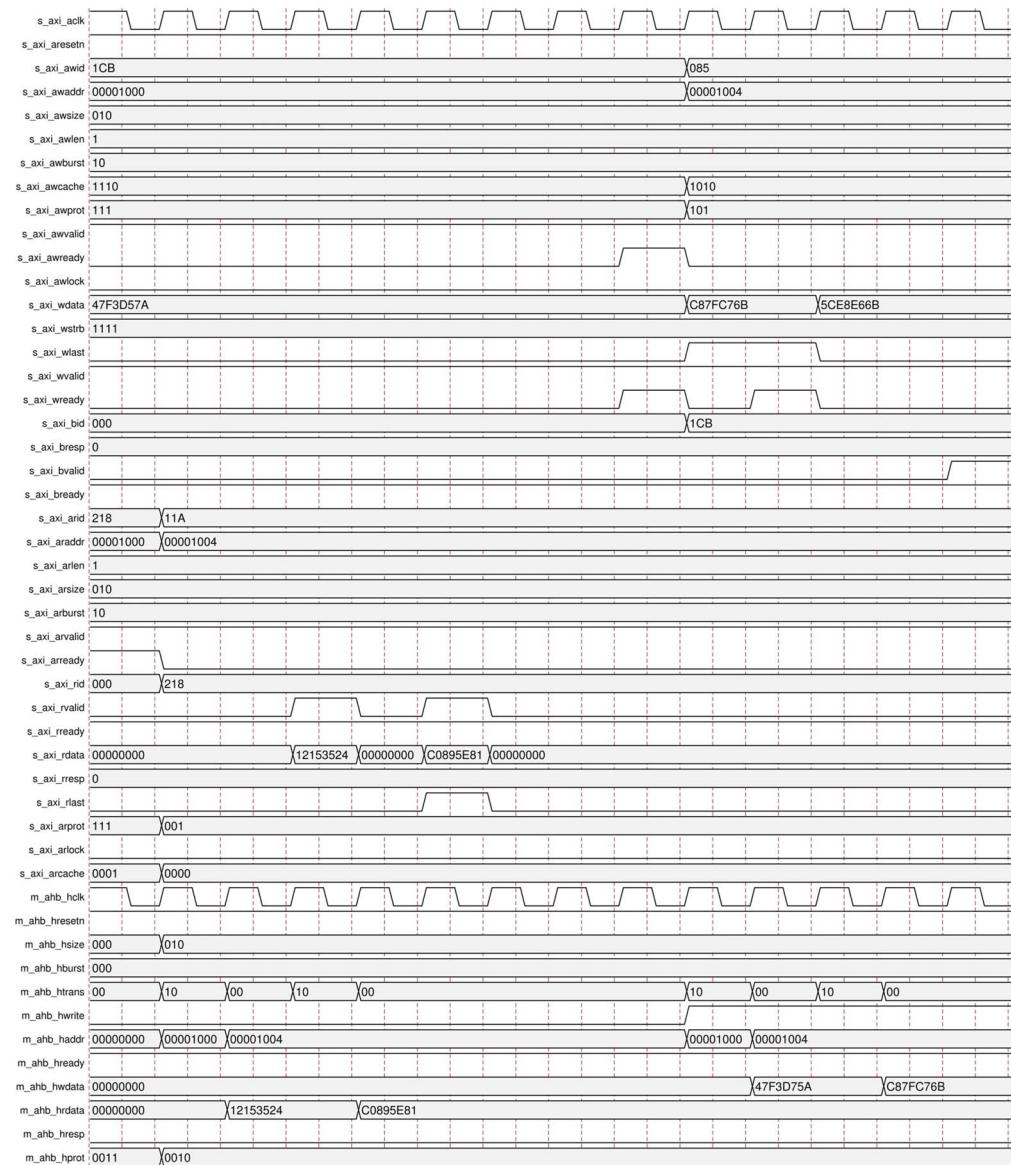

Figure 3-7: AXI4 Wrapping Burst Read and Write Transfer of Length 2
7. AXI4 wrapping burst read and write transfers of length 2 are shown in Figure 3-7. One AXI4 wrapping burst read/write transfer of length 2 is split into two AHB-Lite single read/write transfers.